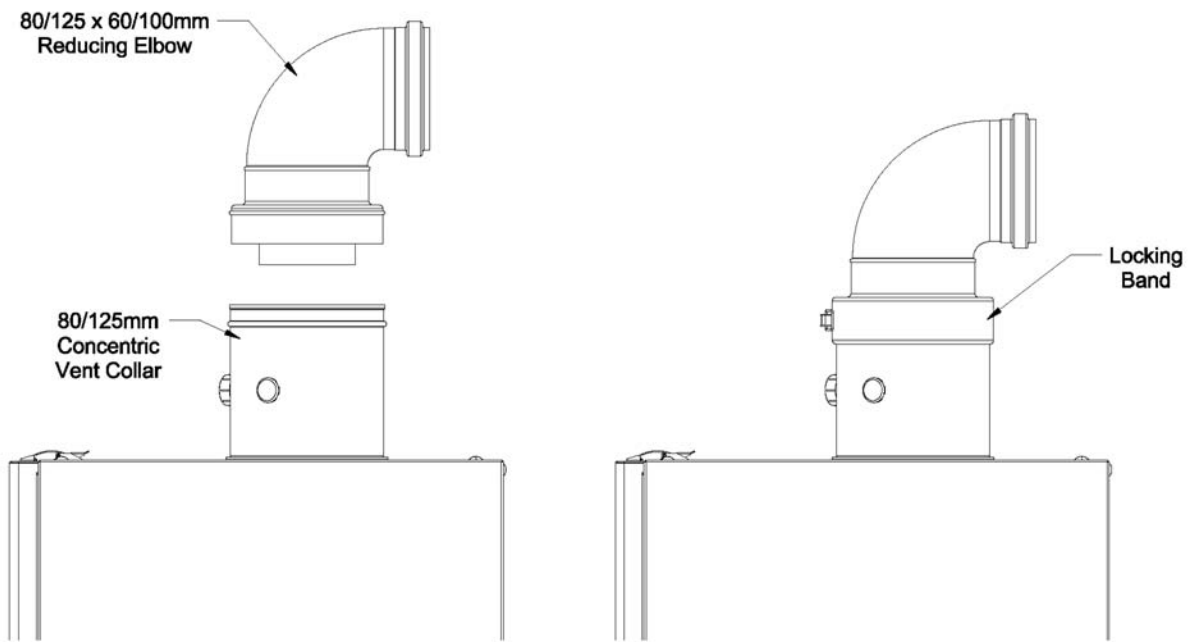

Figure 7.10: Installation of Reducing Elbow on Concentric Boiler Collar
- c) (2) Rubber wall grommets (P/N 101007-01).
- 2) Start by attaching the reducing elbow to the boiler collar. To do so, remove the clamp from the large end of the reducing elbow and set aside. Apply a small amount of water to the brown gasket on the boiler collar. Push the elbow onto the boiler collar until the bead on the elbow contacts the top edge of the collar (Figure 7.10).
- 3) Reinstall the clamp removed in Step (2) so that the elbow is secured to the boiler collar.